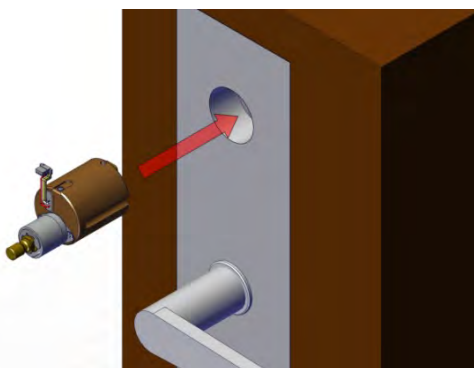
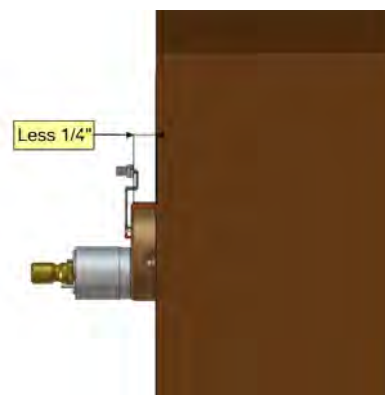
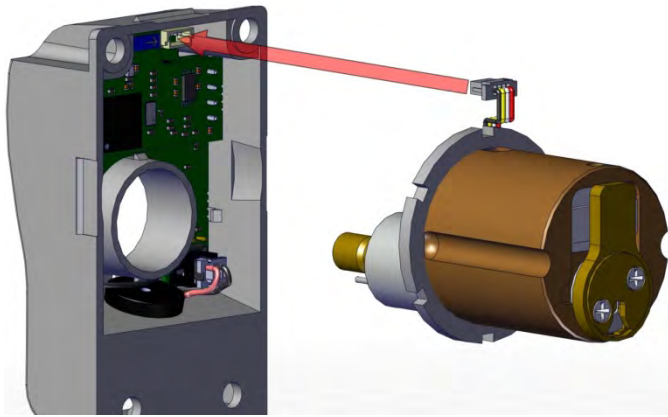
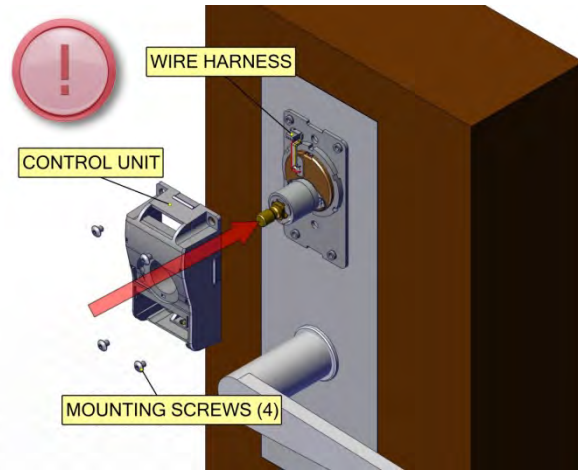

Fig. 5
Fig. 6
Fig. 12
Fig. 13
Screw the M100 into the cylinder mounting hole on the mortise hardware (Fig. 5). It is important to not over tighten, or to keep too loose on the door. The face of the M100 cylinder should stand proud of the escutcheon approximately  $3/16$ "- $1/4$ ". Please also see (Fig. 12) before proceeding (Fig. 6).
**Step 5:** Connect control unit to wire harness and install 4 mounting screws (Fig. 12 and Fig. 13).
Thumbturn is not out far enough refer to Step 4, Fig. 12.
Cylinder is protruding out to far (included are optional spacers for proper spacing of cylinders) refer to Step 4, Fig. 12.